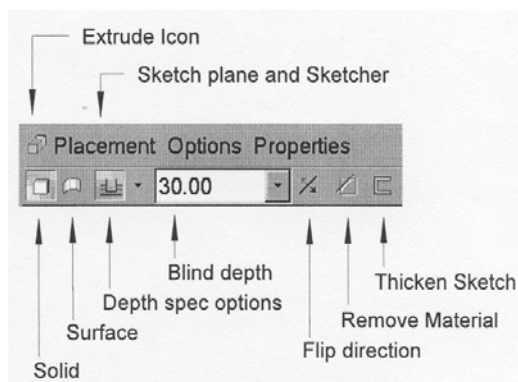
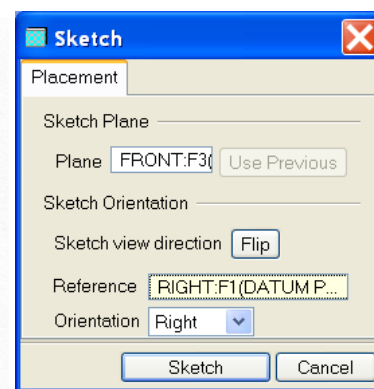

Figure 1.3 The Extrude Dashboard
Figure 1.4 Sketch dialog
- Click on the placement on the extrude dashboard (Figure 1.3) and select define. The sketch dialog window appears as shown in Figure 1.4.
- Extrude the rectangle to form the solid block. Enter depth value as 1.5 into the depth field of the extrude dashboard (Figure 1.3) and click the Accept tick to finish (Figure 1.7).